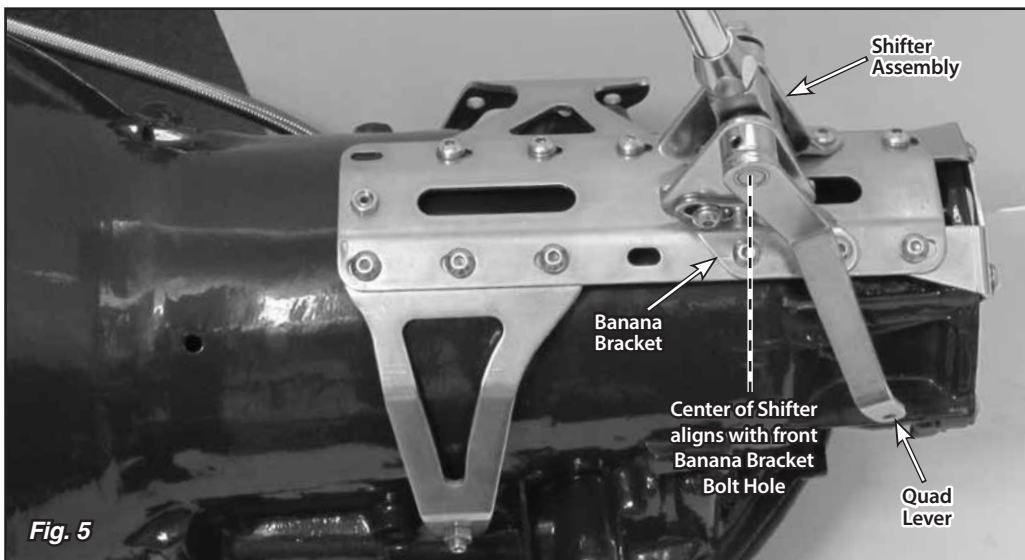

Fig. 5
**Step 8: (Continued)** Transfer that measurement to the transmission (or to the engine/transmission assembly if the engine is not installed in the vehicle). Mark that location on the Shifter's main plate. The holes in the main plate that are closest to your mark are where the **FRONT** banana bracket bolts will need to be installed. **Fig. 5**
Any shifter mounting holes that do not line up with the side or rear mounting bracket bolts must use the provided 5/16"-24 x 1/2" button head bolts and nylock nuts (**NO lock washers**). Make sure the shifter assembly is mounted using all four bolt holes. **Do not use any other length bolts. Fig. 5**